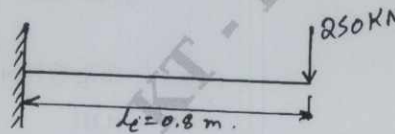

Fig Q5(b)
b. A cantilever beam subjected to point load of 250kN as shown in Fig Q5(b). Determine deflection at tip and support reactions, Take, $E = 200 \text{ GPa}$, $I = 4 \times 10^6 \text{ mm}^4$ and $\ell_c = 0.8 \text{ m}$.